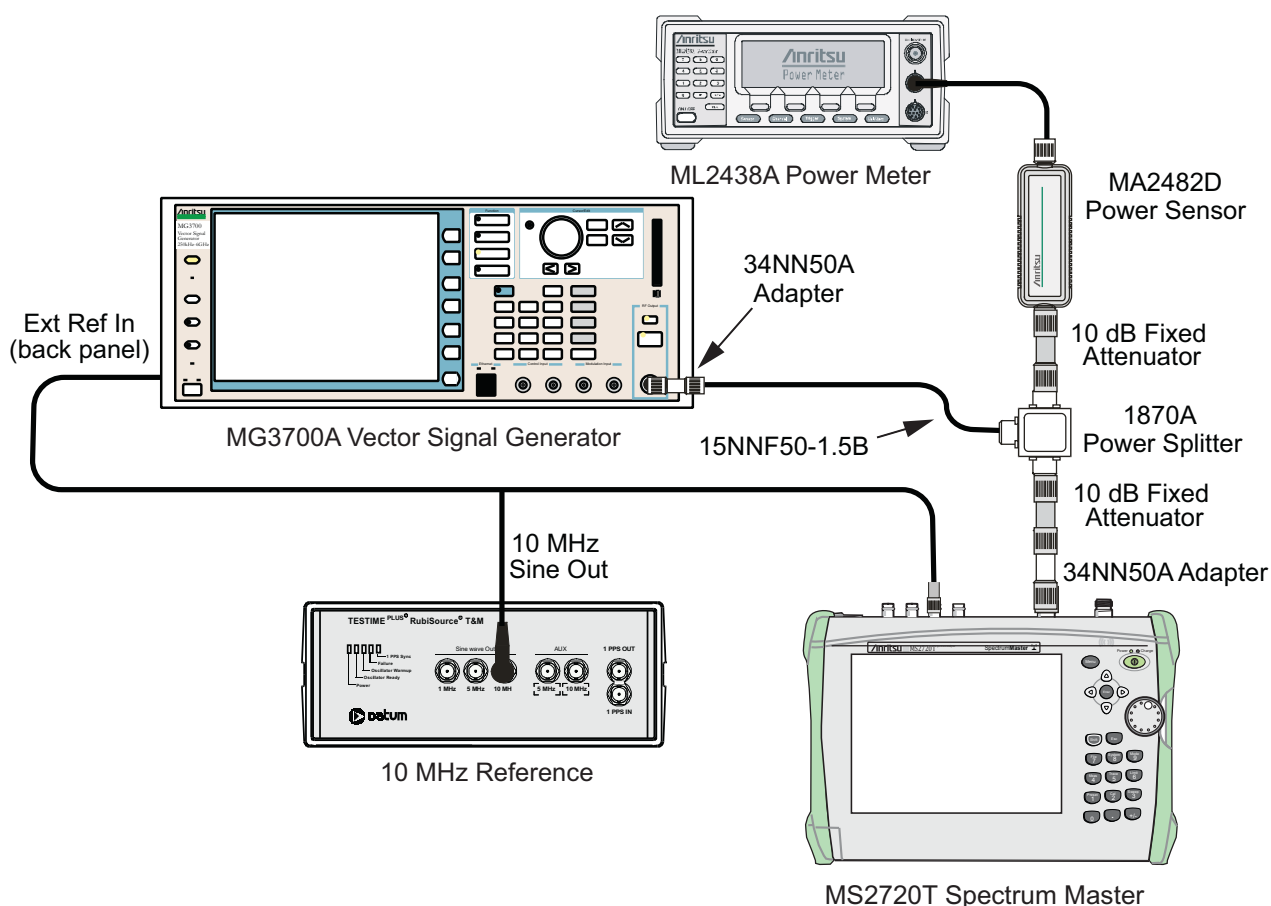

Figure 3-9. LTE Signal Analyzer Option Verification
4. Connect the Power Sensor, 1870A splitter, 10 dB attenuators (quantity 2), as shown in Figure 3-9.